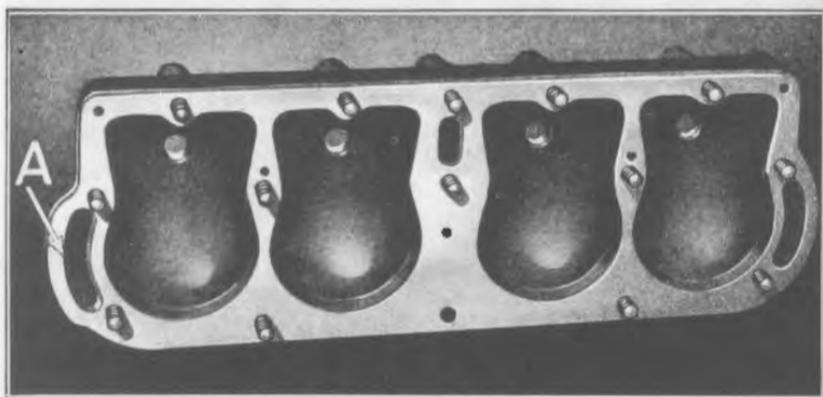

Fig. 226
- 373 Replace cylinder head by inserting the 14 cylinder head bolts into cylinder head (See Fig. 226).